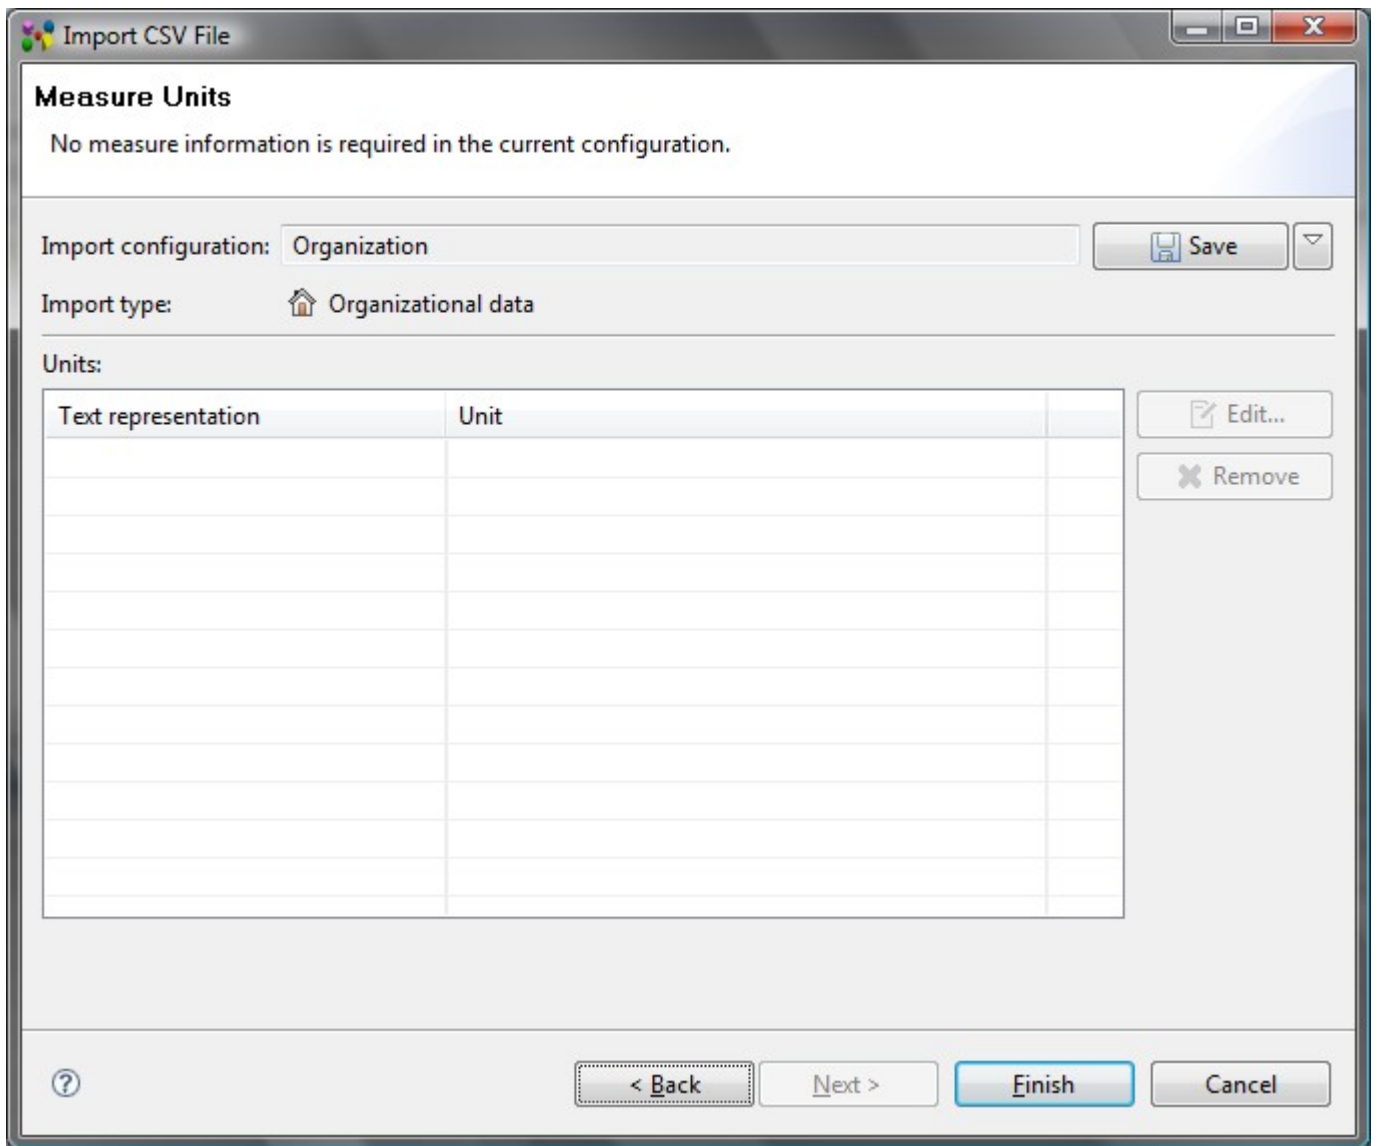

Figure 12. Import CSV file wizard page, Measure Units page
- Press **Next** button to follow to the next **Import CSV File** wizard page (see Figure 12). The **Measure Units** page appears on the screen to define measure units.